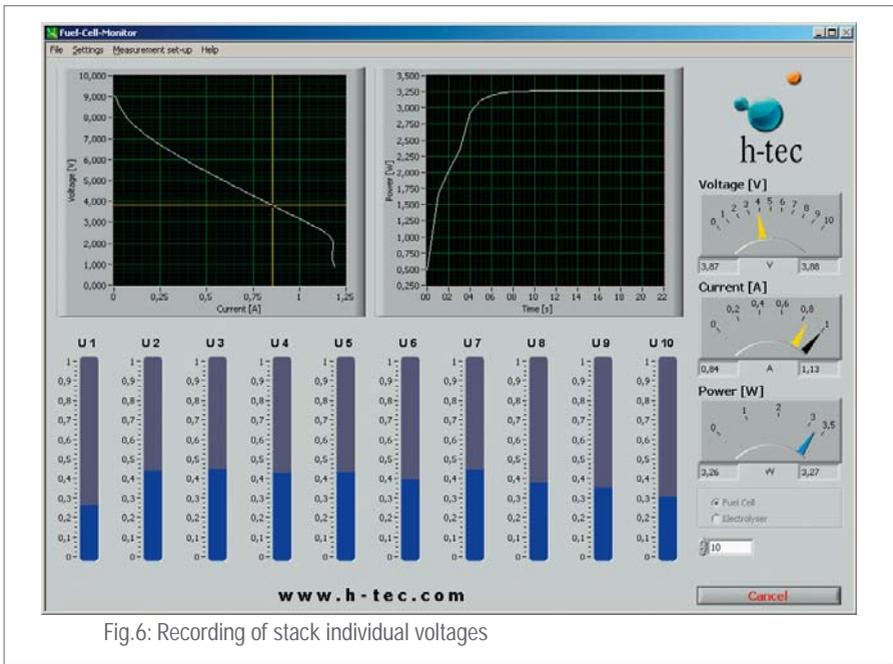

Fig.6: Recording of stack individual voltages
- Click on the cursor with the left mouse button and keep it pressed to move the cursor. Click on Start again. The individual voltage of the stack cells is now displayed and the total power of the fuel cell stack in the power/time graph (see Figure 6).